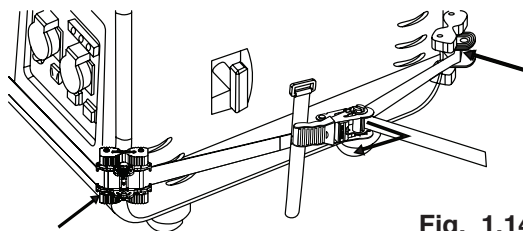

Fig. 1.14
- I. Once the Angle Braces are in the desired location, open and close the ratchet handle 1 or 2 times to begin tightening the system (Fig. 1.14). **Do not over tighten the system so tight that you cannot make any adjustments to the placement of the Angle Braces.**